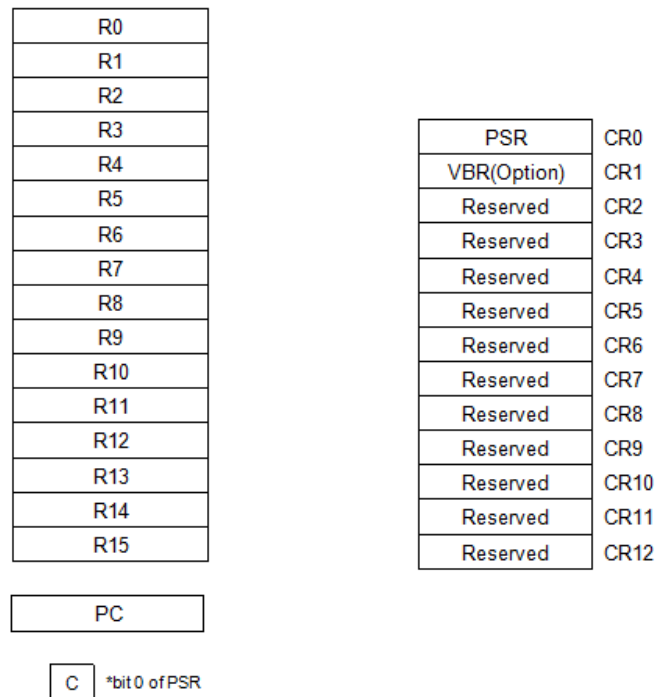

Figure 8–1: Programming Model
The registers depicted in the programming model (see **Figure 8–1**) provide operand storage and control. The user programming model consists of 16 general-purpose 32-bit registers, the 32-bit program counter (PC) and the Condition/Carry (C) bit. The C bit is implemented as bit 0 of the PSR. By convention, register R15 serves as the link register for subroutine calls, and register R0 is typically used as the current stack pointer.
Memory may be viewed from either a Big Endian or Little Endian byte ordering perspective depending on the processor configuration (see **Figure 8–2**. In Big Endian mode (the default operating mode), the most significant byte (byte 0) of word 0 is located at address 0. For Little Endian mode, the most significant byte of word 0 is located at address 3. Within registers, bits are numbered within a word starting with bit 31 as the most significant bit (see **Figure 8–3**). By convention, byte 0 of a register is the most significant byte regardless of Endian mode. This is only an issue when executing the **XTRB[0-3]** instructions.